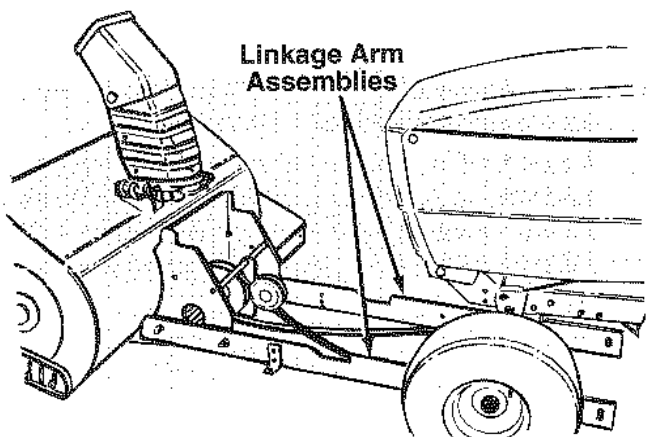
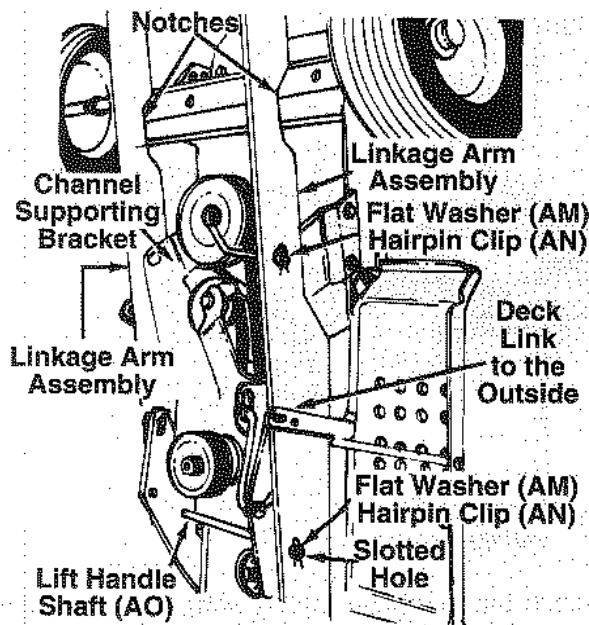

FIGURE 14.
FIGURE 15.
- Place the snow thrower in position in front of the tractor with the linkage arm assemblies extending towards the rear of the unit. See figure 14. Push the tractor forward and position the linkage arm assemblies on the channel support brackets. Make certain the rear deck links are **outside** of the linkage arm assemblies. See figure 15.
- Secure linkage arm assemblies to the weld pins on channel support bracket using flat washers (AM) and hairpin clips (AN). See figure 15.
**NOTE:** Figure 15 is shown with the tractor on end for clarity only. It is not necessary to lift the tractor to assemble the linkage arm assemblies.
- Slide the lift handle shaft (AO) through the slots in the linkage arm assemblies and channel support brackets. Secure with flat washers (AM) and hairpin clips (AN). See figure 15.